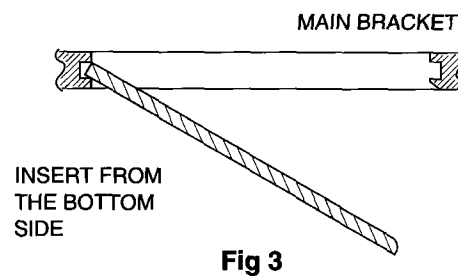

Fig 3
4. Refit the plate as indicated in Fig 3 with the markings located next to each other.